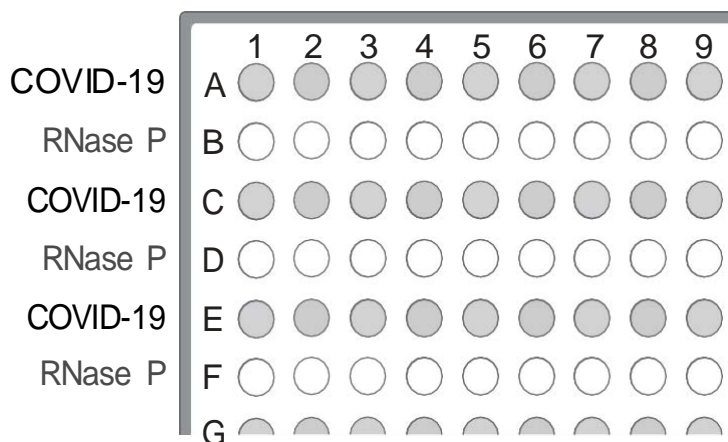

Figure 7 Assays in alternating plate rows
- a. Starting with row A, pipet 15.0 µL per well of the COVID-19 Reaction Mix into every other row of a MicroAmp™ Optical 384-Well Reaction Plate with Barcode. See Figure 7 on page 64.